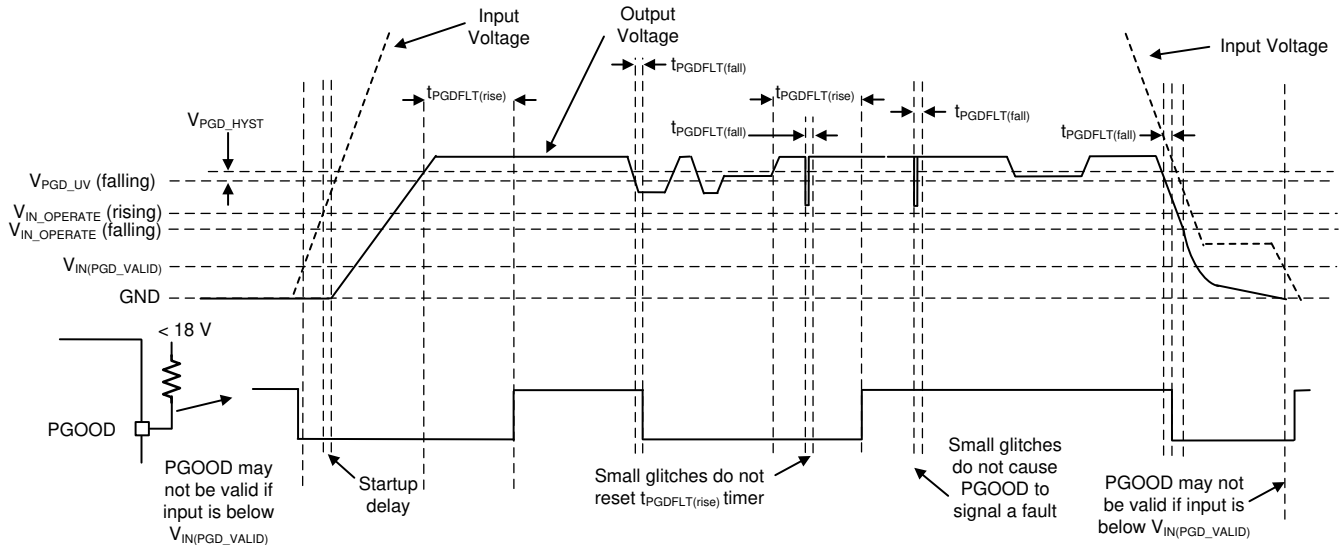

图 7-13. PGOOD Timing Diagram (Excludes OV Events)
The PGOOD function is implemented to replace a discrete reset device, reducing BOM count and cost. The PGOOD voltage goes low when the feedback (FB) voltage is outside of the specified PGOOD thresholds (see 图 6-8). This can occur during current limit and thermal shutdown, as well as when disabled and during normal start-up. A glitch filter prevents false flag operation for short excursions of the output voltage, such as during line and load transients. Output voltage excursions that are shorter than $t_{PGDFLT(fall)}$ do not trip the PGOOD flag. Refer to 图 7-13 to best understand PGOOD operation.